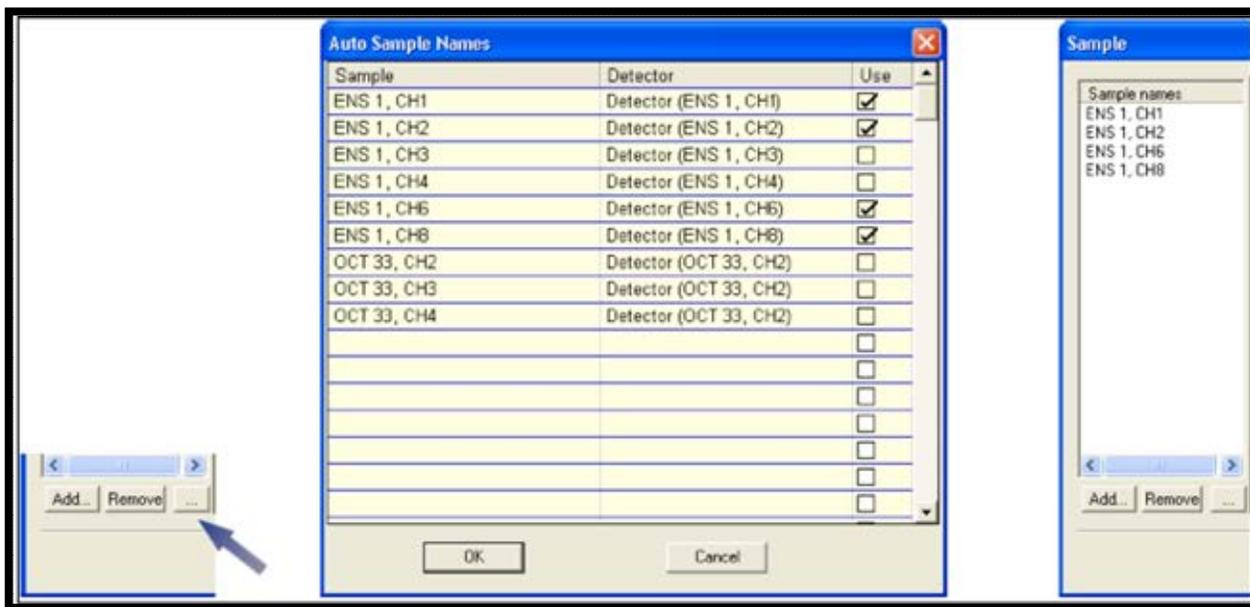

Figure 128. Populating the Sample List with Auto-Sample
- 4) AlphaVision will automatically populate the **Sample names** pane with one sample entry per detector. The samples names will echo the detector names. This process is illustrated in Figure 128.